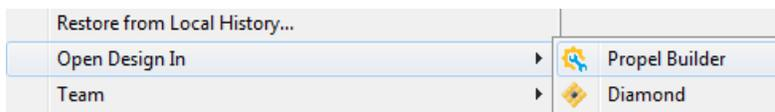

Figure 3.5. Project Explorer Popup Menu
- Right-click the SoC project from **Project Explorer**. Choose **Open Design In** >  **Propel Builder** from the popup menu (Figure 3.5).